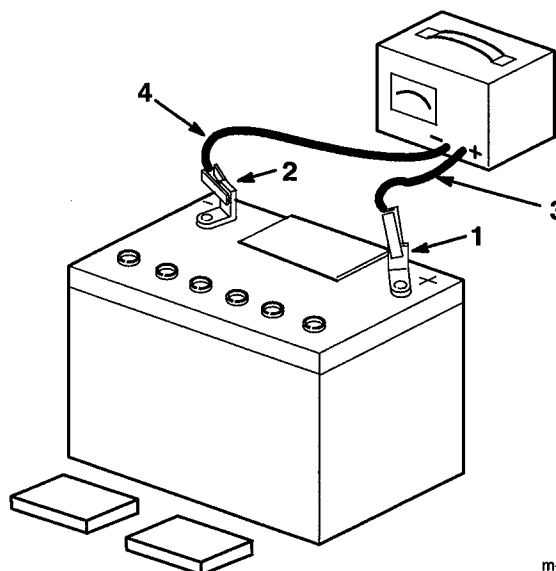

Figure 6
3. Leave the covers off and connect a 3 to 4 amp battery charger to the battery posts (Fig. 6). Charge the battery at a rate of 4 amperes or less for 4 hours (12 volts).
- When the battery is fully charged, disconnect the charger from the electrical outlet then from the negative and positive battery posts (Fig. 6).